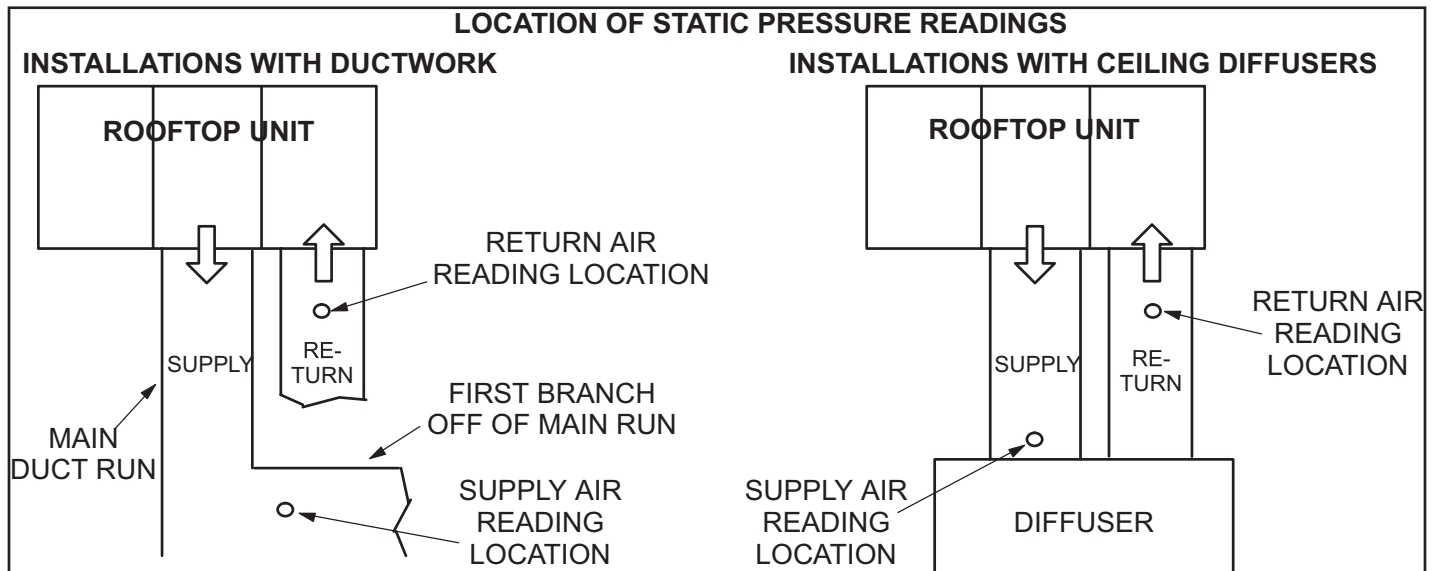

**FIGURE 24**
- 2 - With all access panels in place, measure static pressure external to unit (from supply to return). Blower performance data is based on static pressure readings taken in locations shown in FIGURE 24.